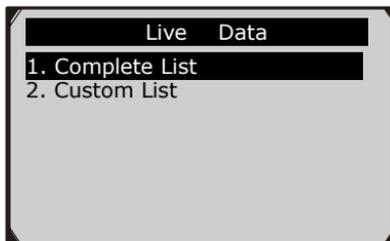

Figure 5.11
- 1) To view complete set of data, use **UP/DOWN** scroll button to select **Complete List** from **Live Data** menu and press the **OK** button. (Figure 5.11)
- 1) To view customized PID data, use the **UP/DOWN** scroll button to select **Custom List** from **Live Data** menu and press the **OK** button.( Figure 5.11)